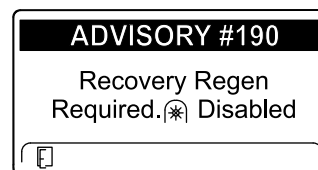

Figure 53
- Recovery regeneration required—power takeoff disabled ADVISORY #190 (Figure 53)